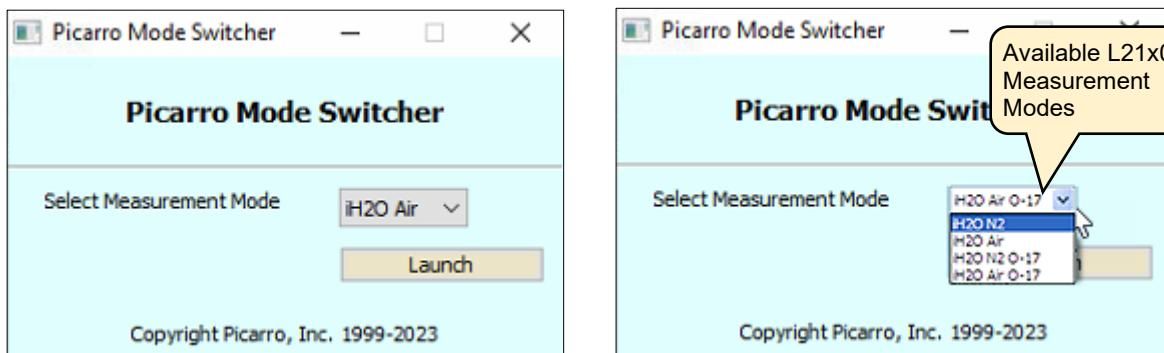

Figure 28: Picarro Mode Switcher
- **Picarro Mode Switcher (not present on all configurations):** When clicked, a window opens (Figure 28) that allows you to switch between various measurement modes. Most analyzer models are configured for one mode and may not include the Mode Switcher. If the analyzer has multiple modes, this allows the user to switch between them easily.
1. Activate the mode switcher interface by double-clicking the Picarro Mode Switcher icon on the desktop (Figure 28).